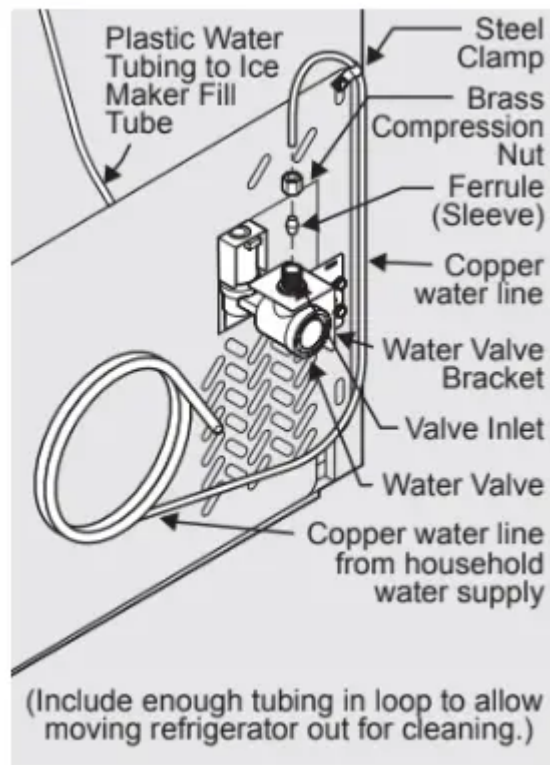

Figure 1
4. If you use copper tubing - Slide brass compression nut, then ferrule (sleeve) onto water supply line. Push water supply line into water valve inlet as far as it will go (1/4 inch/6.4 mm). Slide ferrule (sleeve) into valve inlet and finger tighten compression nut onto valve. Tighten another half turn with a wrench; DO NOT over tighten. See Figure 1. If you use braided flexible stainless steel tubing - The nut is already assembled on the tubing. Slide nut onto valve inlet and finger tighten nut onto valve. Tighten another half turn with a wrench; DO NOT over tighten. See Figure 2.